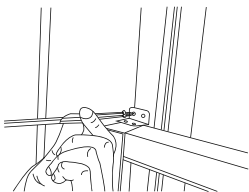

FIG. 13
- 8** To secure lower sash in place, attach right angle sash lock with 1/2" (12.7mm) screw as shown (FIG. 13). NOTE: It is difficult to lock the windows with the sash lock for Vinyl-Clad windows, so you can use lock by window itself.